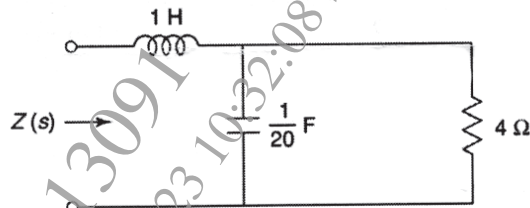

Fig. 3
- c) Determine  $Z(s)$  in the network shown in Fig.3. Find poles and zeros of  $Z(s)$  and plot them on s-plane. [6]